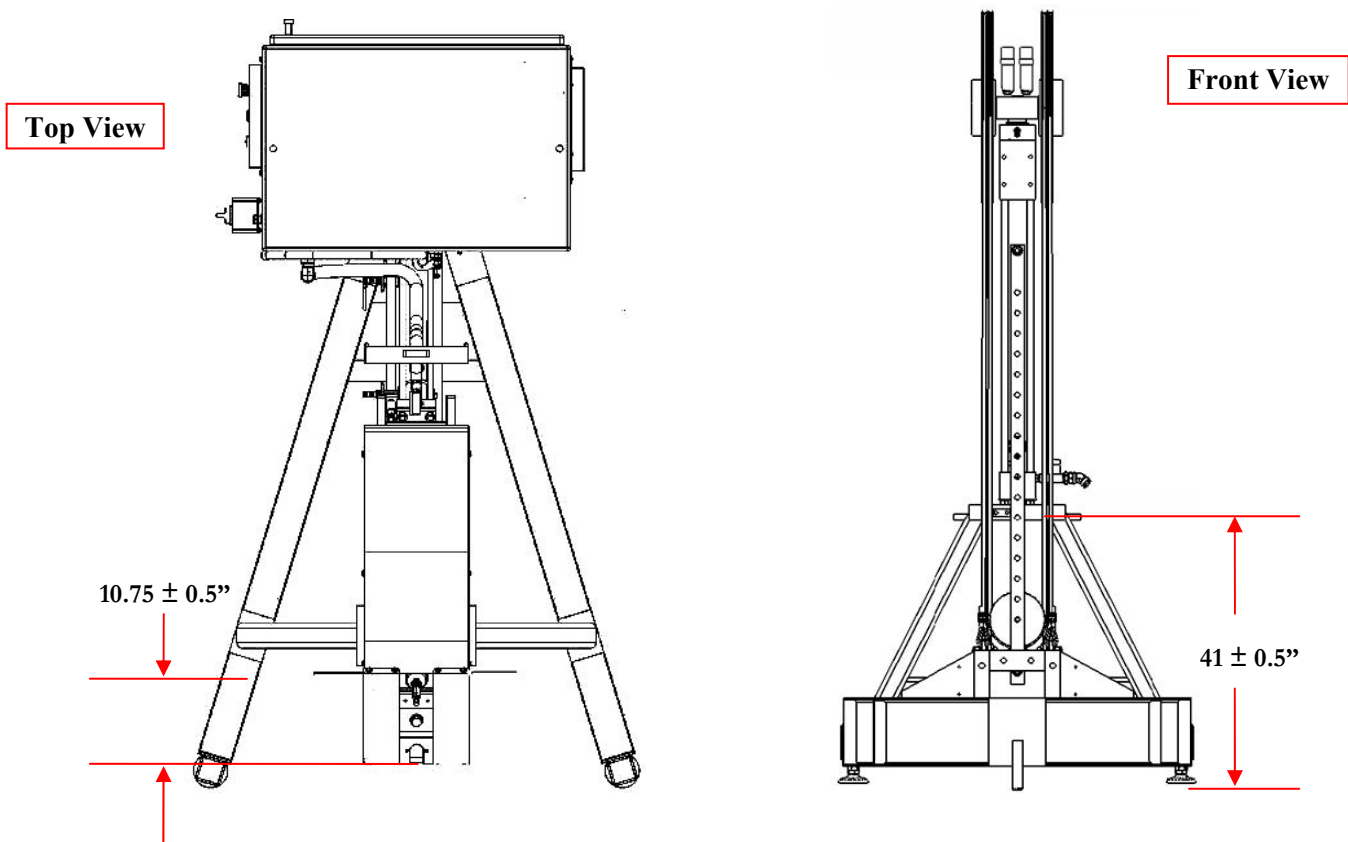

Figure 3. Site Installation
8. The height from the cylinder bottom head to the well head should be  $41 \pm 0.5$  inches (see Figure 3). This distance should be preserved so that the stroke length is maintained.